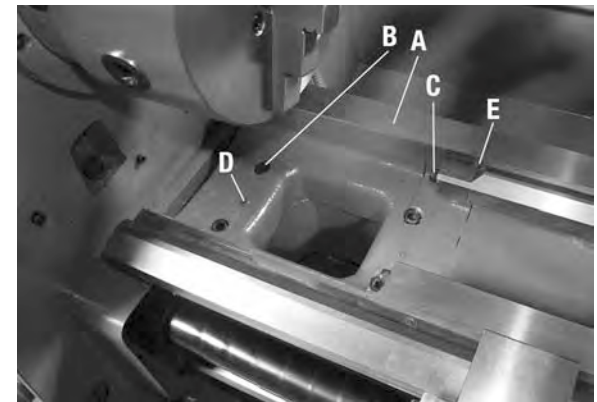

FIGURE 29
This lathe comes with a removable gap section (A) Fig.29, this gap can be removed when turning large diameter workpieces.
1. Remove 4 cap screws (B) Fig.29 from the bottom of the gap and 2 cap screws (C) from the ends of the bed.
2. Loosen 2 set screws (D) from the bottom of the gap and 2 set screws from the bed, then tap the gap upwards using a rubber mallet to dislodge it.